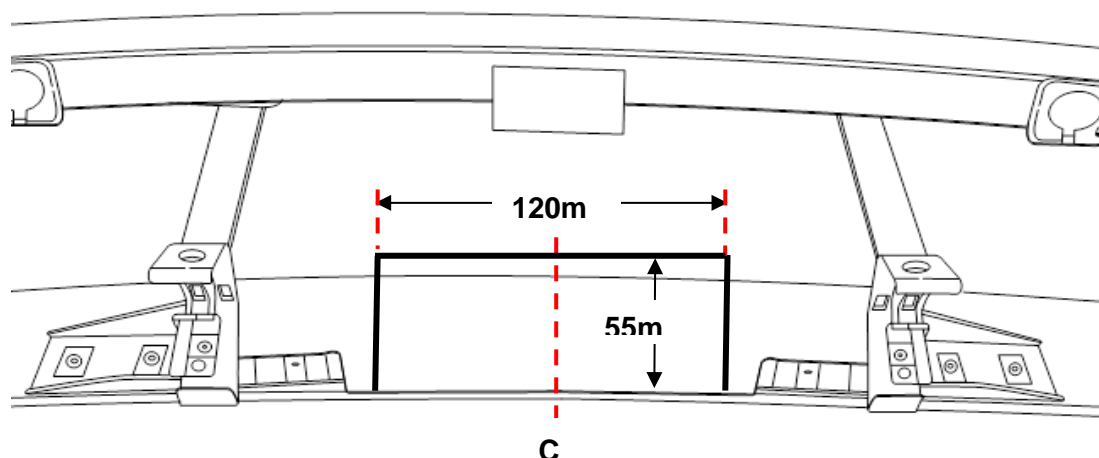

Figure 1: Bumper Cut
63. At the rear exterior of the vehicle, mount the tail harness socket (1) to the towbar mounting bracket using M4 fasteners (not supplied).
64. Route the tail harness (tail length: 1800mm) (2) across the LHS and up into the exposed grommet hole (3).
66. Connect the tail harness 8-way connector (1) to the trailer patch 8-way mating connector (2).
72. Find the centre of bumper. Mark out and cut bumper as shown ensuring there are no loose wires close to cut out. (Figure 1)
Insert Trailer Ball Mount (TBM) (a) into towbar hitchbox (b), aligning hole in TBM shank (c) with hole in hitchbox (d) (Fig. 1)